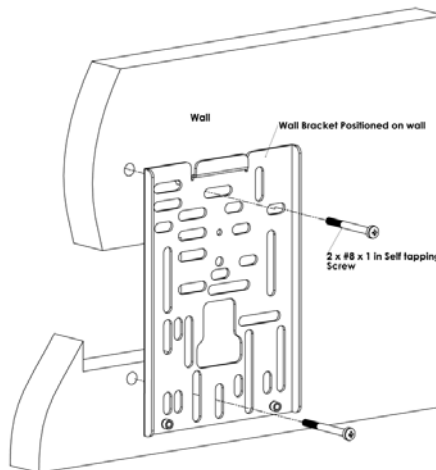

Figure 5. Mounting the Universal Wall Bracket
5. Affix the universal wall bracket to the wall with two screws, as shown in Figure 5.